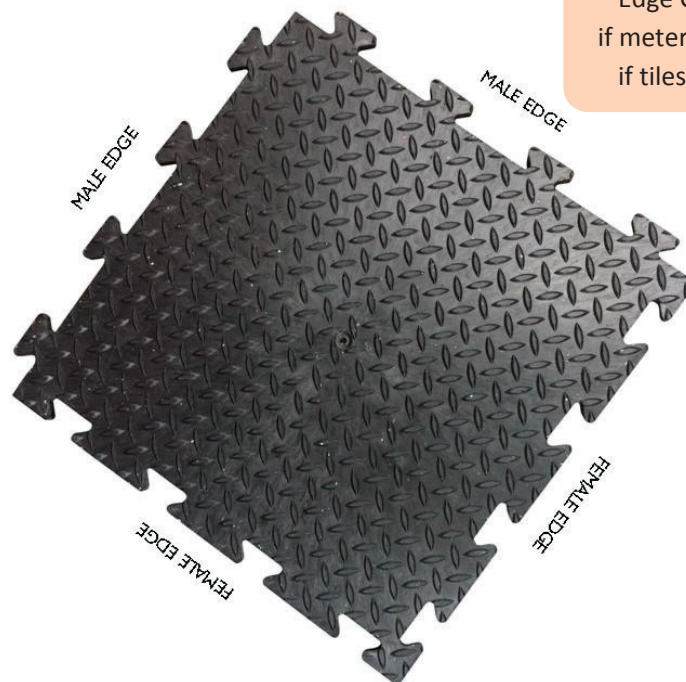
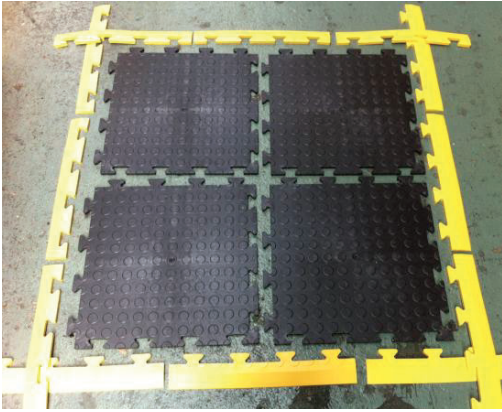

Fig.4
Fig.6
1. Select and align the male or female ramped edge pieces to the male or female tile edges. You will need to offset the edges using the brick style method mentioned earlier or as shown in (fig.6).
How to identify? (fig. 4)
3. Offset the edges using the brick style method mentioned earlier or see (fig.6). The edges are also used to make internal and external corners. Simply cut along the moulded in guideline (fig. 4) on the underside of each edge.